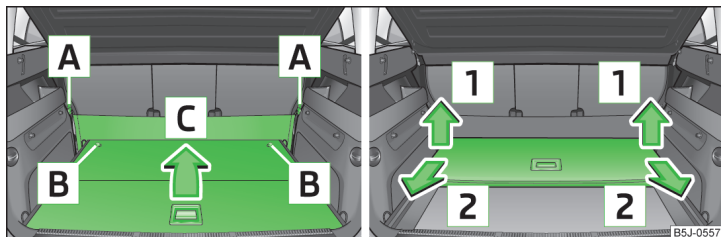

Fig. 69 Fold up variable loading floor/remove
- › Unhook the loops **A** » Fig. 69 of the elastic partition from the fixing points.
- › Lock the variable loading floor by turning the locking bolts **B** » Fig. 69 to the right through around 180°.